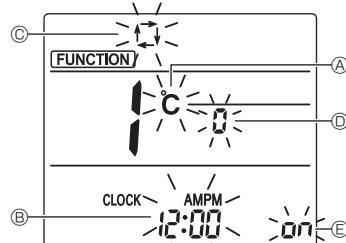

Fig. 4-11
3. Check that function No. "1" is displayed, and then press the **[SET]** button ③.
- The Screen display setting screen will be displayed. (Fig. 4-11)
- Press the **[]** button ④ to change the function No.
4.12.2. Changing the temperature unit (Fig. 4-11 Ⓐ)
- Press the **[TEMP]** button ⑤.
- Each time the **[TEMP]** button ⑤ is pressed, the setting switches between **℃** and **°F**.
4.12.3. Changing the time display (Fig. 4-11 Ⓑ)
- Press the **[TIME]** button ⑥.
- Each time the **[TIME]** button ⑥ is pressed, the setting switches between **12:00** and **24:00**.
4.12.4. Changing the AUTO mode (Fig. 4-11 Ⓒ)
- Press the **[]** button ⑦.
- Each time the **[]** button ⑦ is pressed, the setting switches between **⌚** and **⌚⌚**.
4.12.5. Changing the pair No. (Fig. 4-11 Ⓓ)
- Press the **[]** button ④.
- Each time the **[]** button ④ is pressed, the pair No. 0–3 changes.